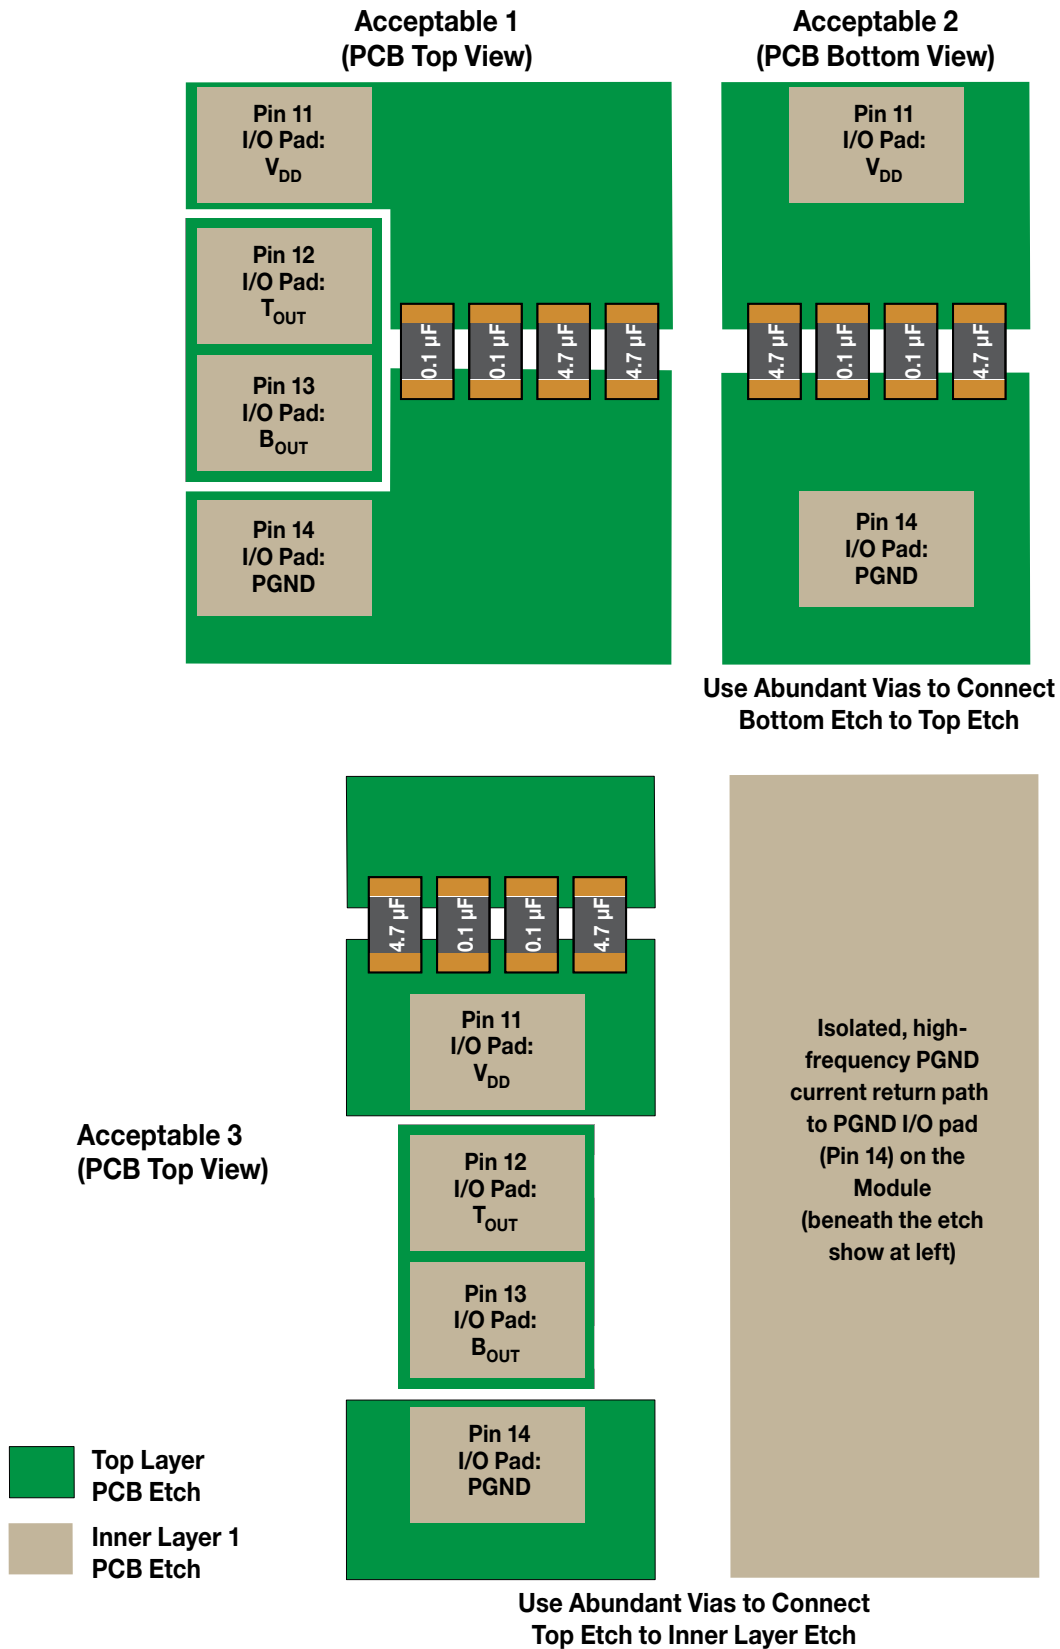

Figure 21. Recommended V_{DD} -to-PGND Power Supply Bypassing (Not to Scale)
The power supply pins and return pin of the FBS-GAM02-P-R50 require proper high frequency bypassing to one-another in order to prevent harmful switching noise-related spikes from degrading or damaging the internal circuitry in the FBS-GAM02-P-R50 module. The more critical bypassing situation is related to the V_{DD} supply to PGND (Pin 14), which bears the high rate-of-change voltages and currents associated with the internal eGaN[®] power switches interacting with a load. It is recommended that a minimum of two (2) 4.7 microfarad ceramic capacitors, one (1) 1.0 microfarad ceramic capacitor and one (1) 0.1 microfarad ceramic capacitor, all with 100 V_{DC} ratings, be connected from V_{DD} to PGND. All four of these capacitors should be low ESR types, if possible. It is strongly recommended that these capacitors inscribe the smallest possible loop area between V_{DD} and PGND so as to minimize the inductance related to this loop area. Figure 21 illustrates three instances of recommended and acceptable V_{DD} -PGND bypassing, as implemented in PCB copper etch. Regardless, different end-use implementations will require different V_{DD} bypass capacitor placements, and it is strongly recommended that the chosen bypassing scheme be evaluated in hardware for its effectiveness.
Figure 28. Maximum Dead Time (t_{dt}) vs. Switching Frequency (f_{sw}) vs. Module Case Temperature (T_c), $I_o = 10 A$, Half-Bridge Configuration (Refer to Fig. 21).